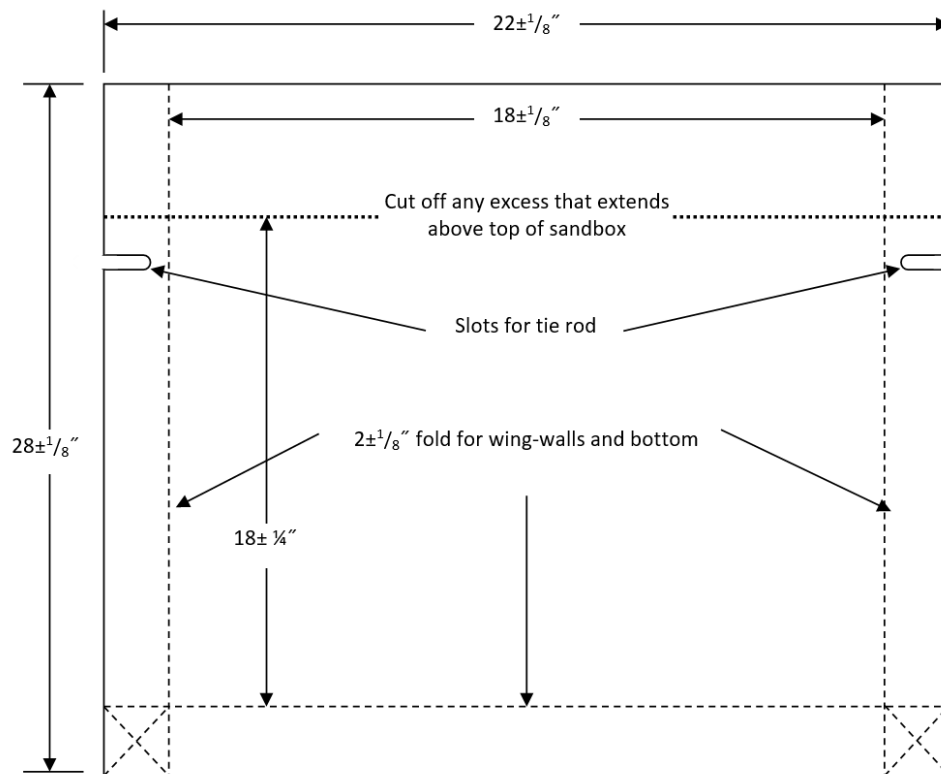

Figure 8: Dimensions of the poster board wall facing (not to scale)
- a) Facing – One piece of poster board. See Figure 8 for dimensions.
- a) **Reinforcement Fabrication Stage** – Each team will be provided with a single sheet of 60 lb kraft paper approximately 24 in  $\times$  24 in. The team must fabricate all their reinforcing elements from this sheet using authorized construction tools. Fifteen (15) minutes will be allotted for this stage. Teams will be penalized for time exceeding the time limit. After all reinforcing elements are fabricated, excess material will be disposed of and the judges will weigh the reinforcing elements to the nearest 0.01 grams.
- b) **Wall Assembly Stage** – After each team’s reinforcing elements have been fabricated and weighed, the team will be provided with a sheet of poster board (22 in × 28 in) and a roll of packing tape. The team must assemble their wall using these materials and authorized construction tools. Dimensions for the wall facing area shown in Figure 8.